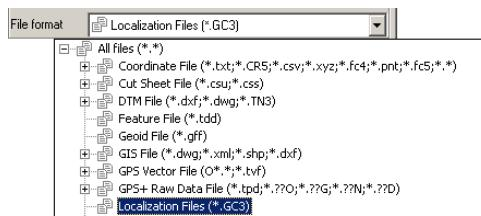

Figure 3-63. Format List
- Select the file format (Figure 3-63).